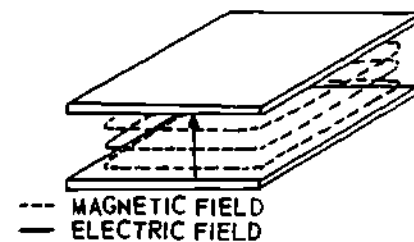

Figure 1-14. Magnetic (H) Field Boundary Condition
2. A varying magnetic field of closed loops exists parallel with the conductors and perpendicular to the electric field. This magnetic, or H-field, is illustrated in figure 1-14.